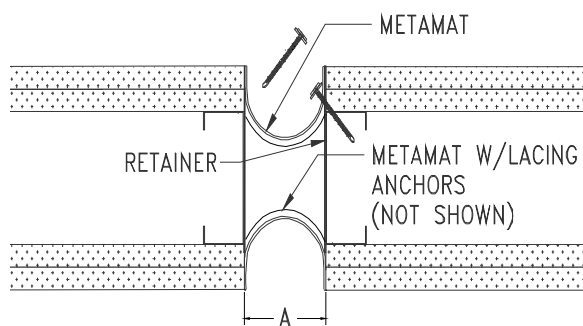

Figure 4
STEP 3. Select the fasteners and washers provided by the factory. Place a washer onto each fastener. Using the fasteners, attach the MetaMat layer to the wall (Figure 4). For steel stud and gypsum wallboard walls, ensure that the fasteners are anchored through the steel stud. Clean away all dust and debris from the fire barrier and from the installation area.